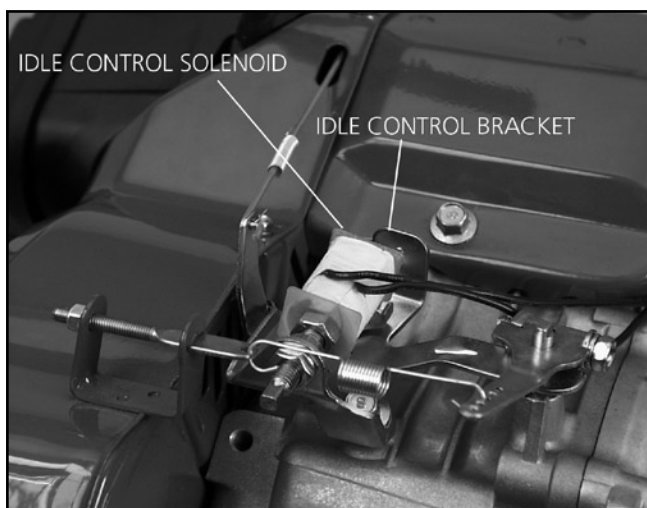

**Figure 4-3. External Governor Parts
External governor parts for units without automatic idle control are shown in Figure 4-3. Parts include (a) a GOVERNOR LEVER, (b) a GOVERNOR ROD, (c) ANTI-LASH SPRING, (d) a SPEED ADJUST BOLT, (e) a SPEED ADJUST NUT, and (f) a GOVERNOR SPRING.
Models equipped with automatic idle control (Section 5) have the same external governor parts as shown in Figure 4-3 with the addition of an idle control solenoid as shown in Figure 4-4.
Before any covers and shrouds can be removed from the engine, the governor external parts must be removed. Refer to Figures 4-3 and 4-4 for identification of the parts described in the following procedure.
2. Loosen the GOVERNOR LEVER CLAMP BOLT (Figure 4-3).
3. Loosen SPEED ADJUST NUT until the GOVERNOR SPRING can be removed (Figure 4-3).
4. Lift the GOVERNOR LEVER from the GOVERNOR ARM (Figure 4-3).
5. Disconnect the GOVERNOR ROD and ANTI-LASH SPRING from the GOVERNOR LEVER (Figure 4-3).
After the installation of the engine shrouds and covers, reinstall the governor external parts as follows (refer to Figure 4-3):
In the typical connection system shown in Figure 4-3 (page 4-1), the governor rod connects to the governor lever at one end; to the carburetor throttle arm at the opposite end.
1. Loosen the GOVERNOR LEVER CLAMP BOLT (see Figure 4-3).
5. If the frequency (or rpm) reading is incorrect, turn the SPEED ADJUST NUT (Figure 4-3) on the governor until frequency or rpm is within limits.